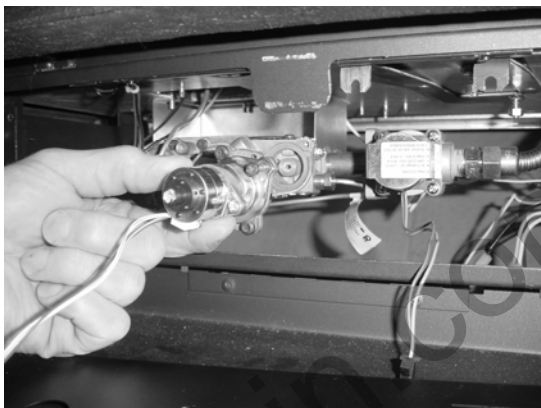
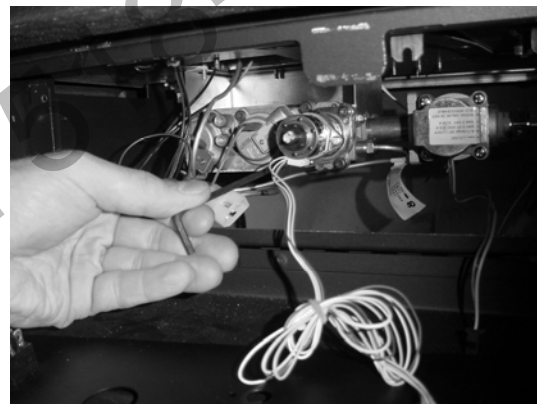

Figure 15
Figure 16
- 10 The stepper motor (adjustable regulator) has an installation sheet included with it – make sure to follow all of the directions. Place the stepper motor on the gas control valve (see Figure 15) – **MAKE SURE IT IS CORRECTLY ORIENTED.** Secure using the screws included with the motor (see Figure 16) – tighten to 25 Lb-inches. Leak test this area after installation to verify proper installation.